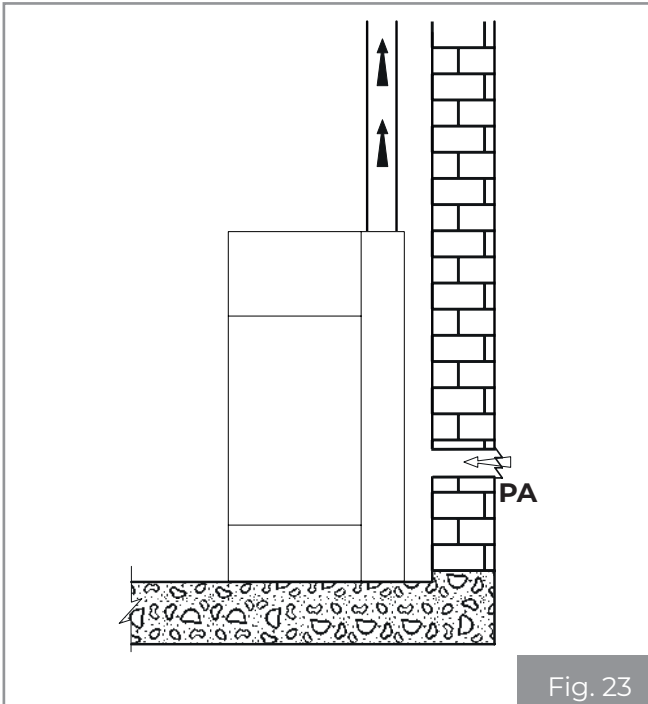
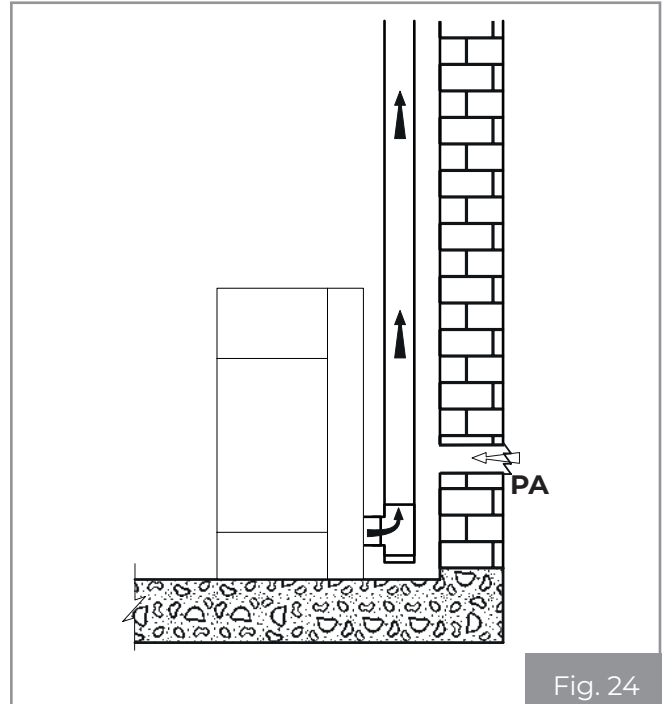

Fig. 23
Fig. 24
- it can come from the installation room or suitable adjacent rooms (**Fig. 23 - Fig. 24**)
Create the air intake on the wall (**Fig. 23 and Fig. 24 - PA = Air Intake**), and leave the appliance to withdraw the room air, making sure to connect the section of corrugated pipe on the air inlet pipe, if supplied, fixing it with the strap and folding it slightly downwards to prevent any resonance effects.